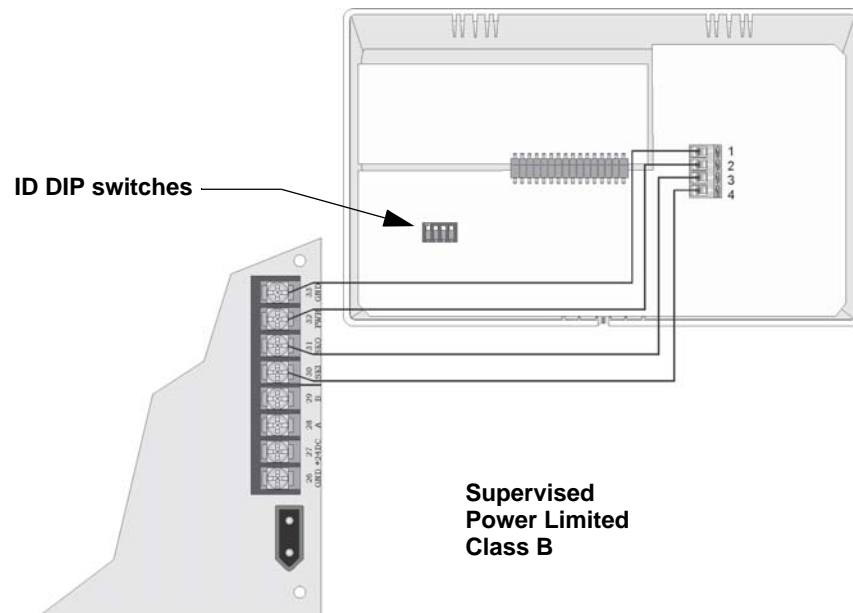

Figure 3-12 Model SK-5235 Connection
2. Wire the SK-5235s as shown in Figure 3-12.